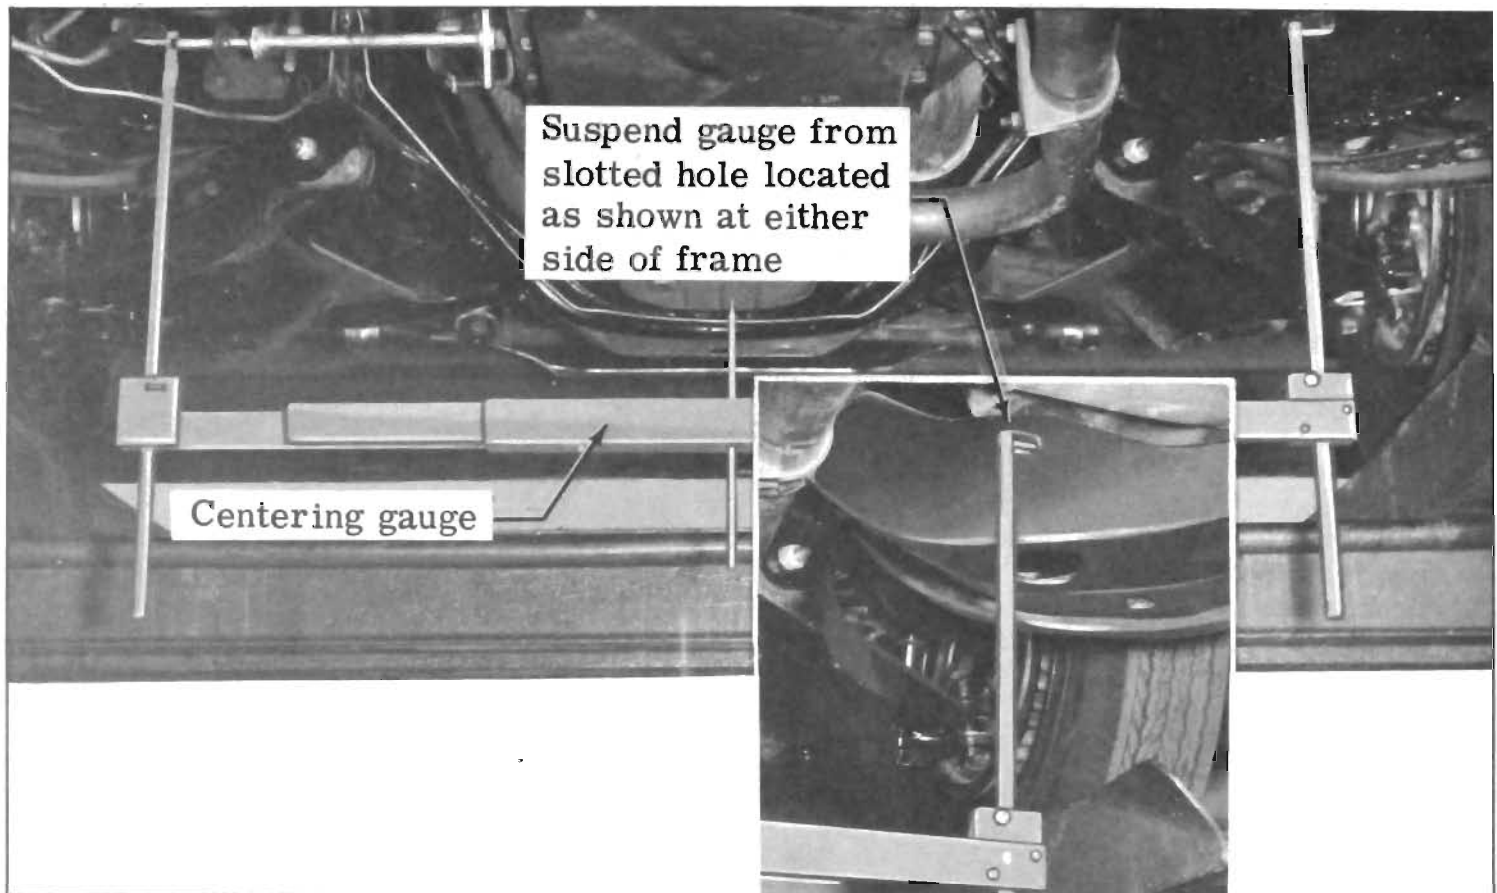

Figure 12-22—Centering Gauge Installed at Forward Portion of Frame Mid-Section
1. With car still on stands, suspend two centering gauges from frame mid-section. Hang forward gauge from inner holes in frame as shown in Figure 12-22.